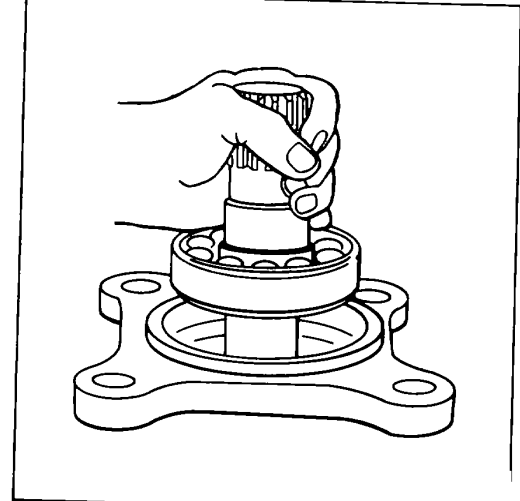

Figure 131.
1. Inspect pump shaft (1) for excess wear or damage. If either spline shows damage or if bearing journal or seal surface shows galling, scoring or heat discoloration, replace shaft.
2. If inner and outer race of roller bearing (50) are not damaged or worn, assemble inner race on shaft (1) with retaining ring (49) using truarc pliers. If either inner or outer race is damaged, replace bearing as a set only! Install new inner race as described above.
3. If previously removed, install inner retainer ring (55). Inspect old ball bearing. If galled or damaged, press new ball bearing (30) on pump shaft (1). Ball bearing (30) should seat against inner retainer ring (55). CAUTION should be exercised not to deform inner retainer ring by forcing bearing (30) against it. If deformed, back bearing (30) off and reseal. Care should be taken to support inner race of ball bearing (30) in arbor press while pressing in shaft (1). Heating the ball bearing in hot oil will aid in a smooth bearing installation. Install outer retaining ring (55).
4. Install pump shaft assembly (1, 30, 55, 49 & inner race of 50) through the front face of the mounting flange (2). See Fig.131. The ball bearing (30) should fit snugly in the flange (2). If ball bearing (30) doesn't seat easily, heat mounting flange (2) in hot oil and seat ball bearing in proper position. Do not drive the ball bearing (30) into place. Do not use the shaft seal retainer (57) to force bearing into seat. Check bearing (30) for free running by rotating shaft (1).